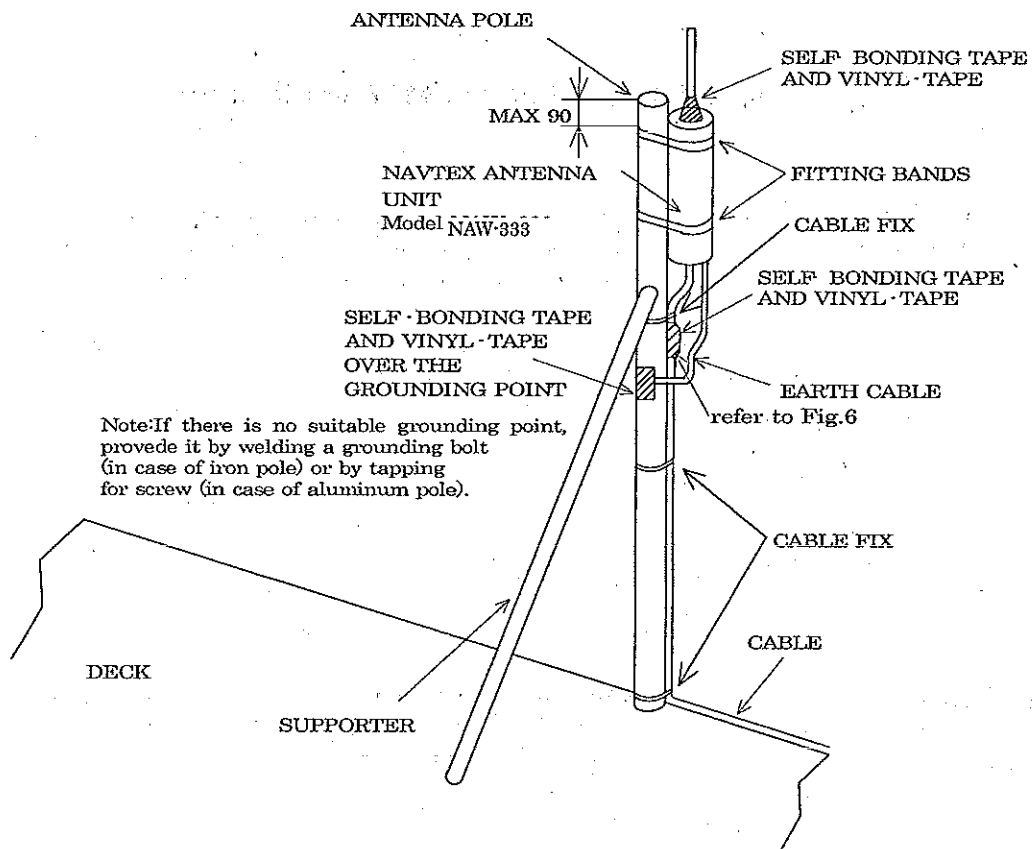

Fig.5: INSTALLATION EXAMPLE
- 1) Select the location where obstructions are not within a radius of 1 m, and reinforce the antenna pole with a supporter as shown in the Fig.5 to prevent damage with vibration on a ship